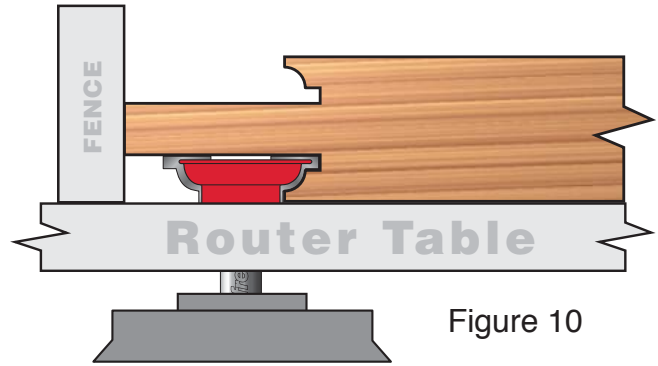

Figure 10
c) Completing the cuts for the long tenons (figure 10).